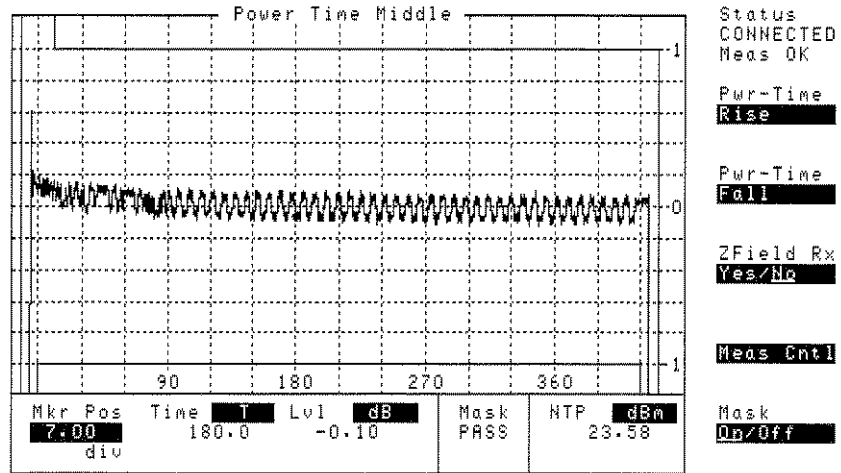

Figure 2-7. Power Time Middle Screen
- Select **Pwr-Time Fall** softkey from the screen shown in Figure 2-7.
- Select **Pwr-Time Rise** softkey from the screen shown in Figure 2-7.